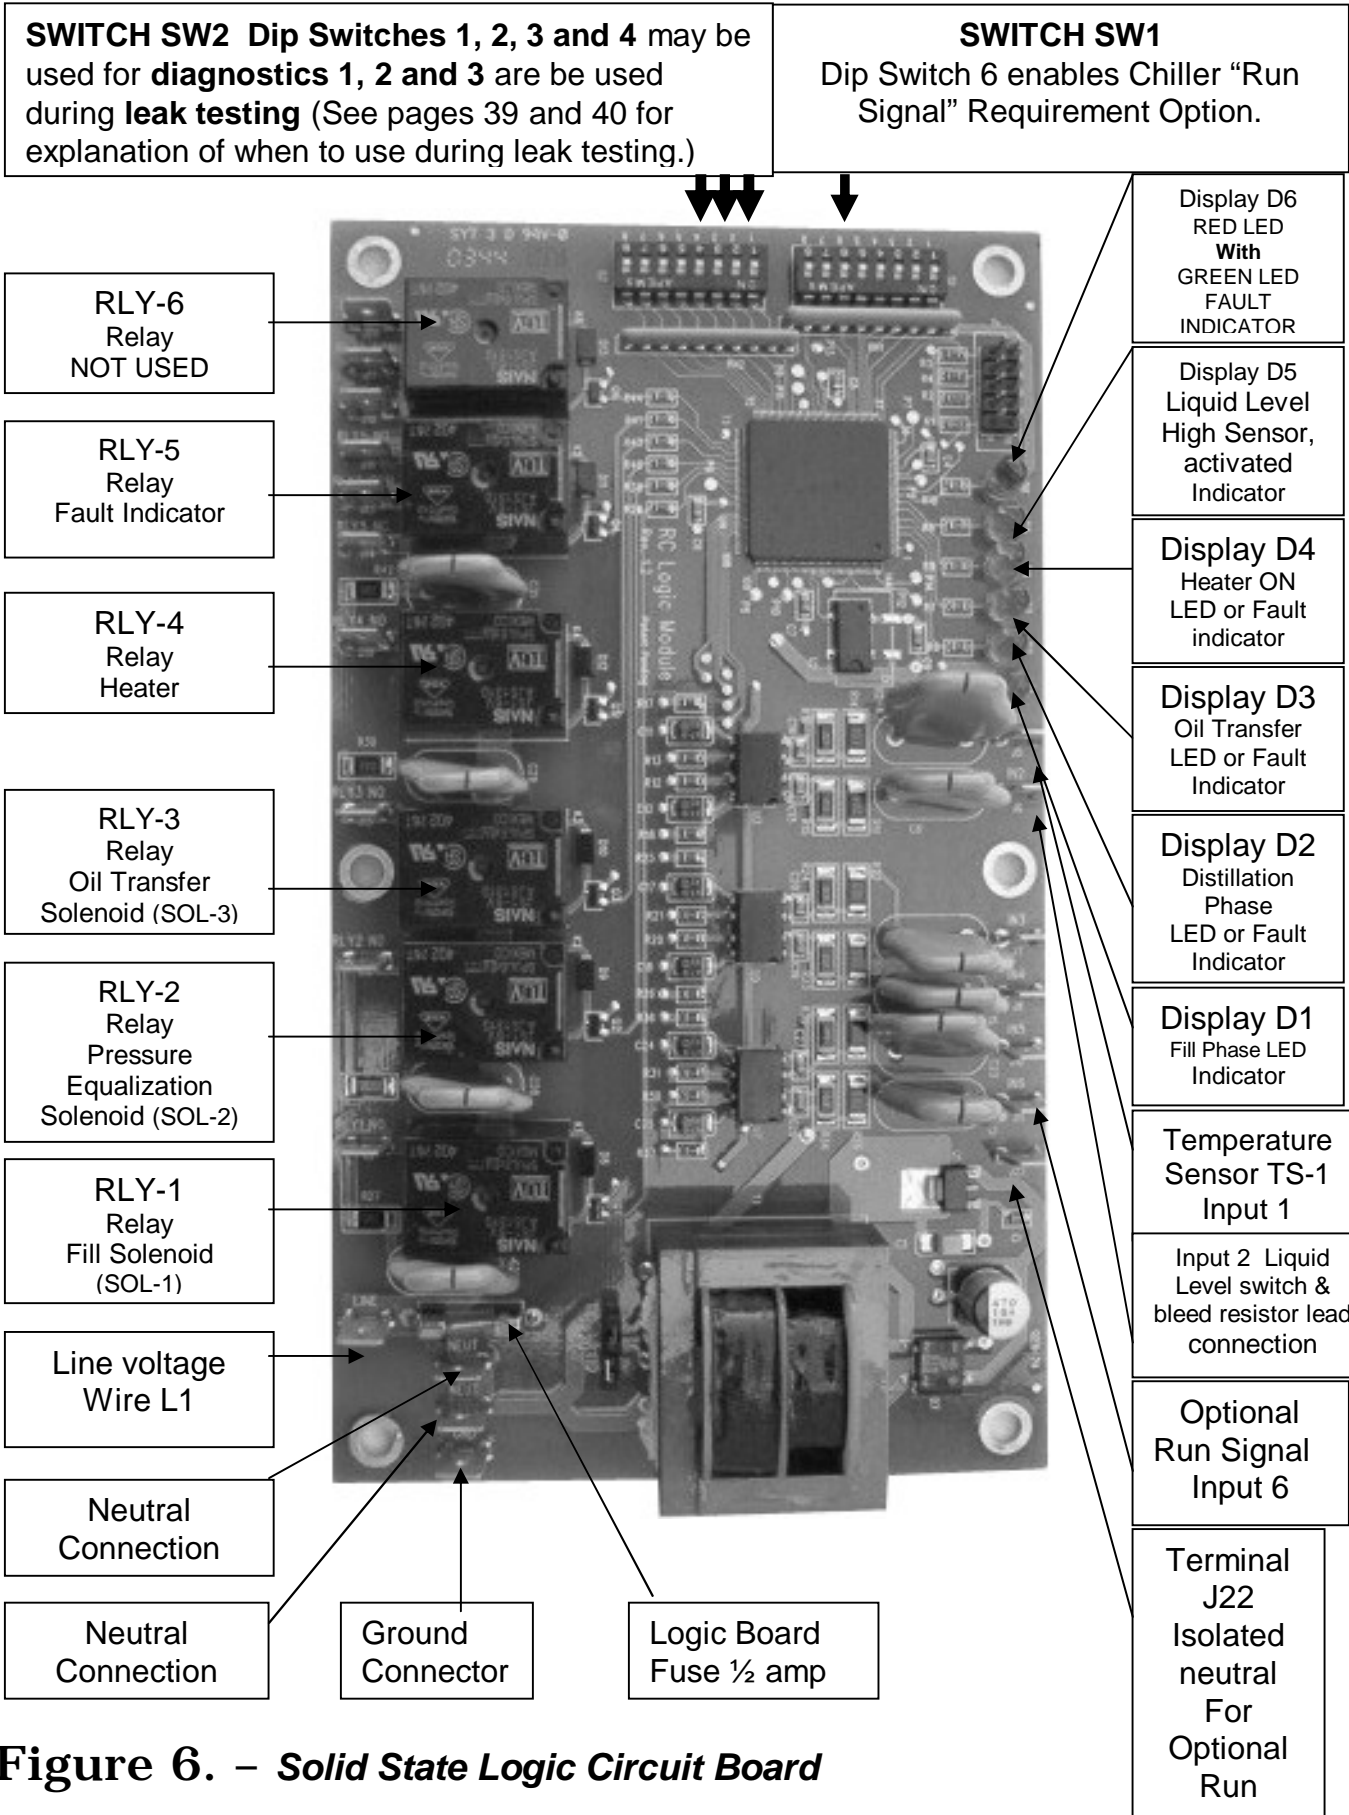

Figure 6. – Solid State Logic Circuit Board
5. The **D1 Green LED** indicator (see **Figure 6, page 33**) should now be **blinking**, indicating the purger is in Fill Phase and the Distillation Tank is being filled by gravity with oil laden refrigerant from the Chiller. **Filling of the distillation tank can be observed by viewing the three (3) sight glasses on the right side of the OAM distillation tank.**
(See Figure 5, page 31, Figure 6, page 33 and Figure 7, pages 34 and 35.)
(See Fig. 6, Page 33 for further information.)
Switches (SW1) & (SW2) During normal operation All Dip Switches on SW1 & SW2 of the Logic Board MUST be in the off position. During diagnostics and leak testing procedures certain Dip Switches on Switch SW2 are placed in the on position. (See Fig. 6, page 33.)
(See Figure 6, on page 33)
Switches (SW1) & (SW2) During normal operation All Dip Switches on SW1 & SW2 of the Logic Board **MUST** be in the off position. During diagnostics and leak testing procedures certain Dip Switches on Switch SW2 are placed in the on position. (See Fig. 6, page 33.)
DIP Switch SW2 switches 1, 2 and 3 must be ON during leak testing procedure. (See Fig. 6, page 33 for location of Switch SW2.)
WARNING: Be sure DIP Switches 1, 2 and 3 on SW2 are returned to the OFF position when finished with the leak test. If either of these DIP Switches are left in the ON position, the OAM Purger will not function properly. (See Fig. 6, page 33 for location of Switch SW2.)
- 1) Remove control box cover and flip DIP-switches 1, 2 and 3 on SW2 to the **ON position** (See Figure 6, page 33 for location of SW2 and Dip Switches 1, 2 and 3). This will energize all three Purger Unit solenoid valves allowing interconnecting lines to chiller to be pressurize.
2. With power to OAM Purger **OFF** remove cover from control panel. On the solid-state logic control board locate **DIP-Switch SW2.** *(See Figure 6, page 33 for dip-switch SW2 location.)* Flip switches **1, 2** and **3** to the **ON** position. This will energize all three OAM Purger solenoid valves when power is applied.